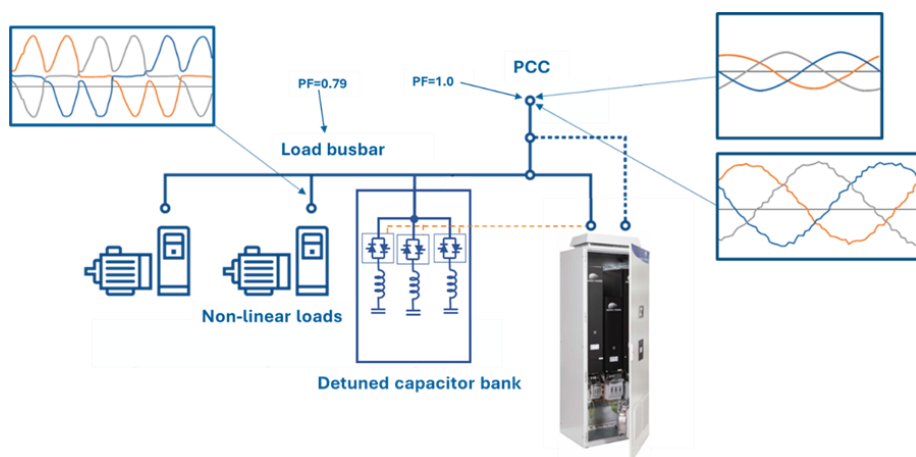

Figure 1: Operational principle of the Merus® HPQ-Series hybrid power quality filter.
The operating principle of the HPQ is illustrated in Figure 1. Merus® HPQ-modules are power electronic devices connected in parallel with the non-linear load. The HPQ consists of an active harmonic filter (AHF) module(s) with parallel connected capacitor steps. The capacitor steps are automatically controlled with the HPQ-module Digital Output (DO) relays. The HPQ-module operates as a controlled current source, providing any kind of current waveform in real time. The HPQ-module is equipped with an energy storage element and a control system, which enables it to inject desired current to the network. The HPQ-module, connected in parallel with the non-linear load, compensates the harmonic currents caused by the non-linear load. Therefore, only sinusoidal active current is drawn from the network.